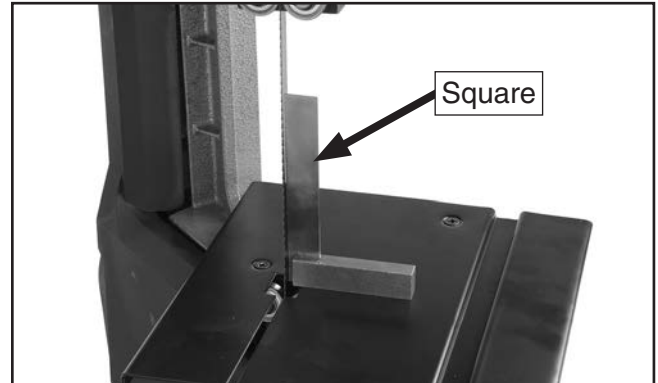

Figure 23. Squaring table to blade.
4. Set a square on table to side of blade, as shown in **Figure 23**, and adjust table bracket to square table to blade.